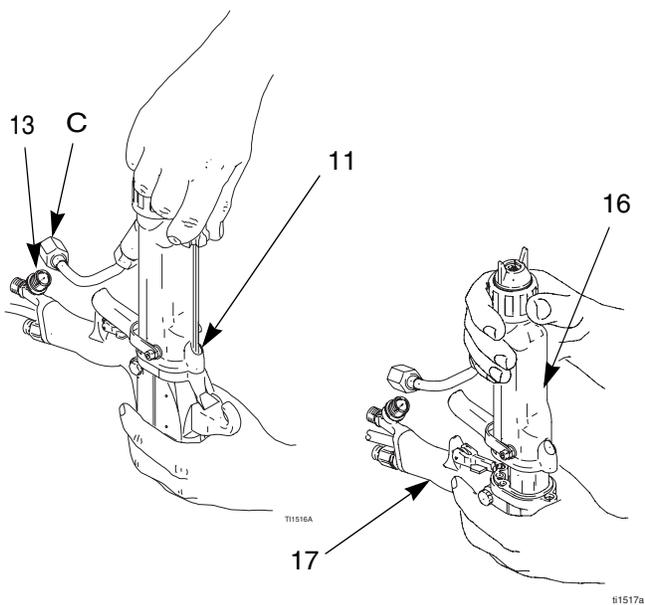

Fig. 16. Barrel Removal
2. Carefully loosen the nut (C) from the bracket fluid fitting (13). See FIG. 16.
3. Loosen the three screws (11).